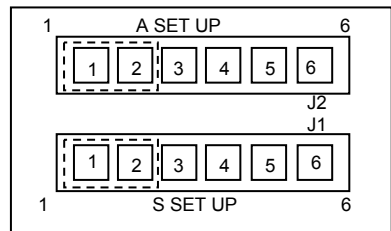

Figure 23
12. Position the jumpers on pins **1** and **2** of the **J1 (S SET UP)** and **J2 (A SET UP)** headers. (Refer to *Figure 23*)